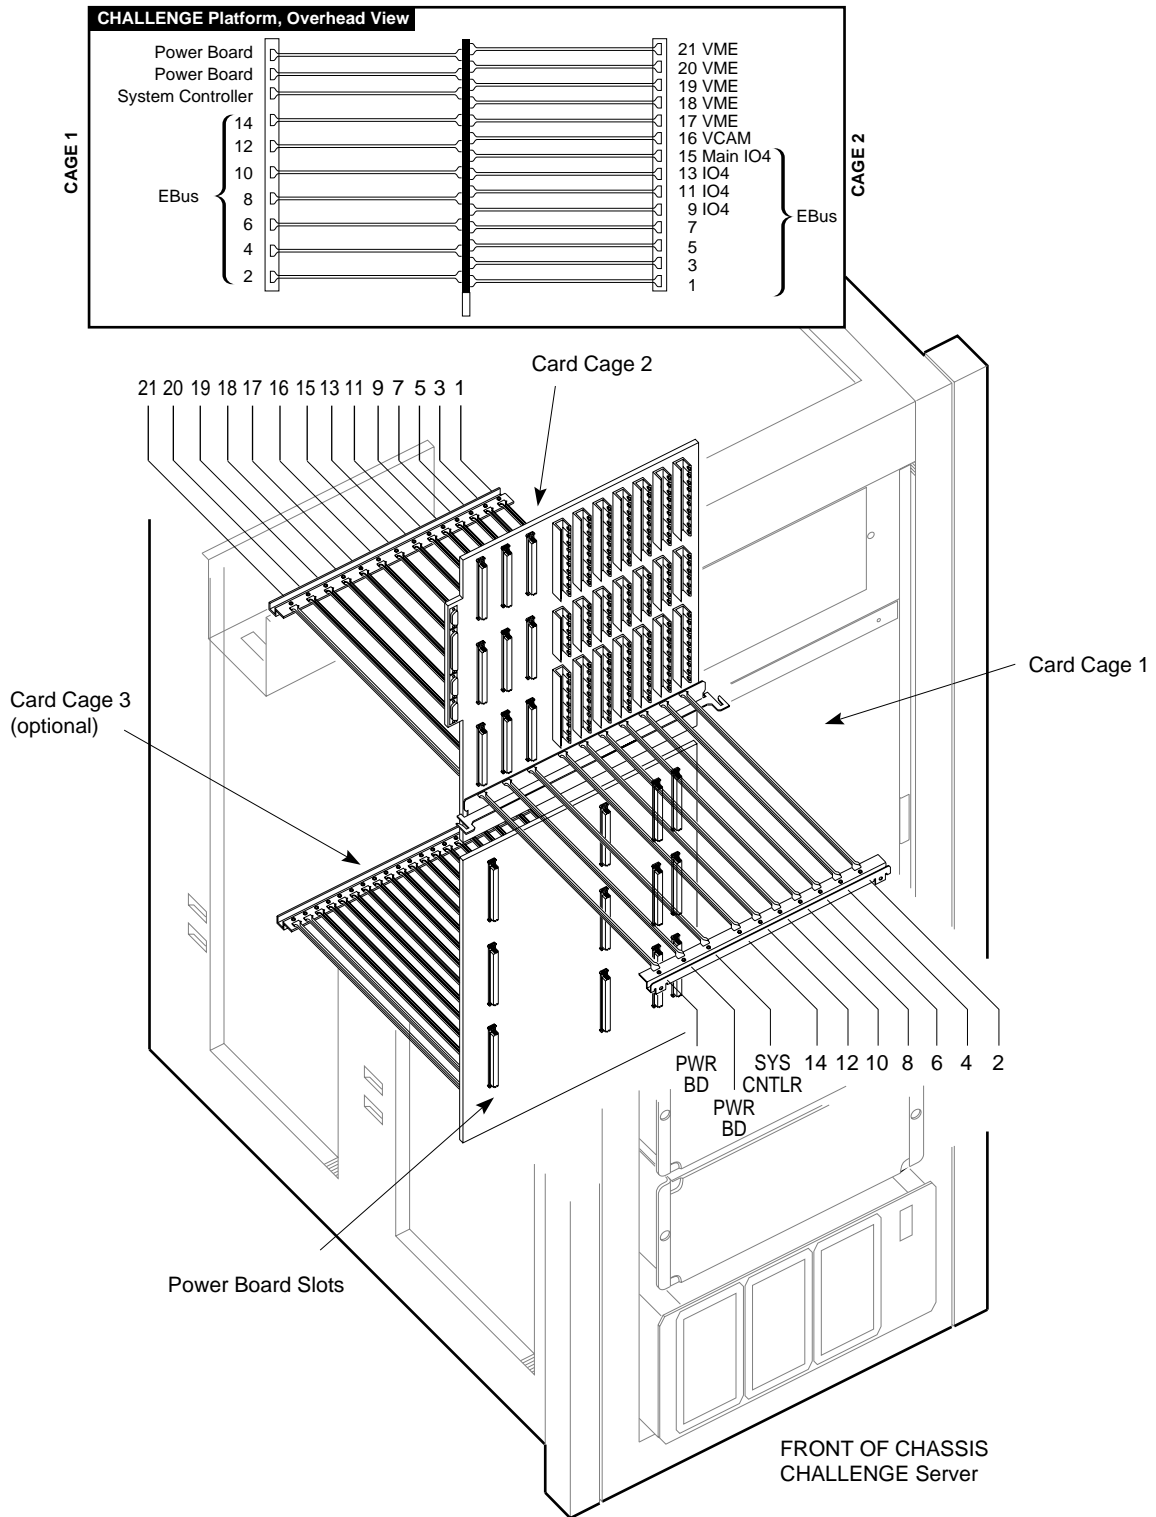
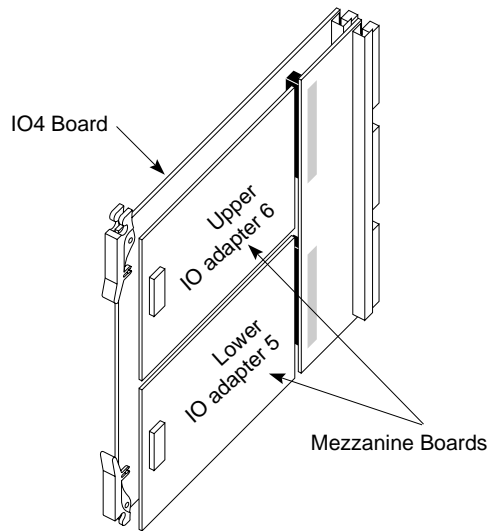

Figure 2-7 CHALLENGE Rackmount Slots for IO4 Boards
Figure 2-8 Upper and Lower Mezzanine Slots on IO4 Boards
7. Open the back door and pull down the I/O panel for card cage 2 to expose the IO4 boards and VMEBus slots, as illustrated in Figure 2-7.
Locate the IO4 boards that are currently installed. Slot 15 always has an IO4 board. (See Figure 2-7 for an illustration of the slots.) In addition, slots 13, 11, 9, 7 and/or 5, may contain IO4 boards. A CHALLENGE XL may have one to six IO4 boards installed. Each IO4 board has two mezzanine slots, as illustrated in Figure 2-8. The ATM board may be installed on any of the available mezzanine slots, as detailed below:
- If the system has only one IO4 board, this is the location for the IRIS ATM board. The ATM board may be installed in either the upper or lower position on the IO4 board, as illustrated in Figure 2-8.